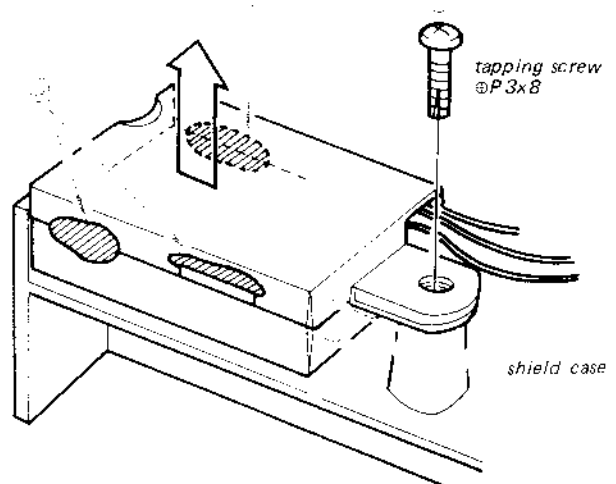

Fig. 2-9.
- Remove the screw labeled in Fig. 2-9.